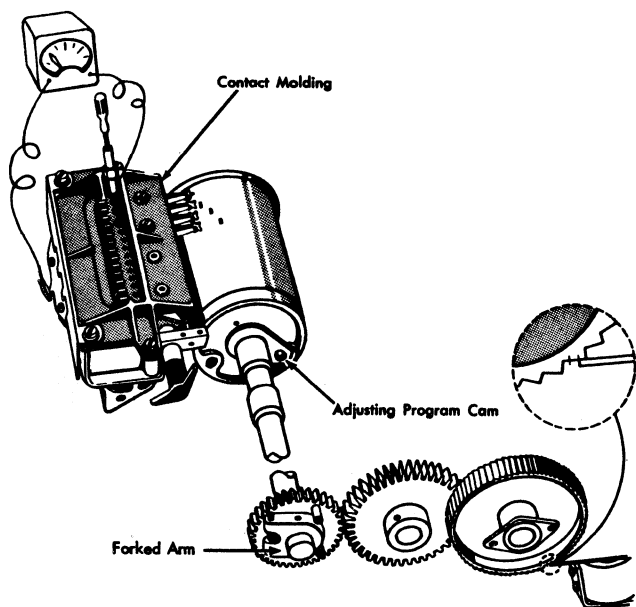

Figure 72. Program Sensing Contacts Adjustment
2. Place card on drum (Figure 72) and install drum on machine.
3. Remove power from machine and connect ohmmeter across the 12 position sensing contact (Figure 72).
3. Adjust forked arm to make escapement armature overlap escapement wheel by $\frac{1}{8}$ to $\frac{1}{3}$ tooth (Figure 72).